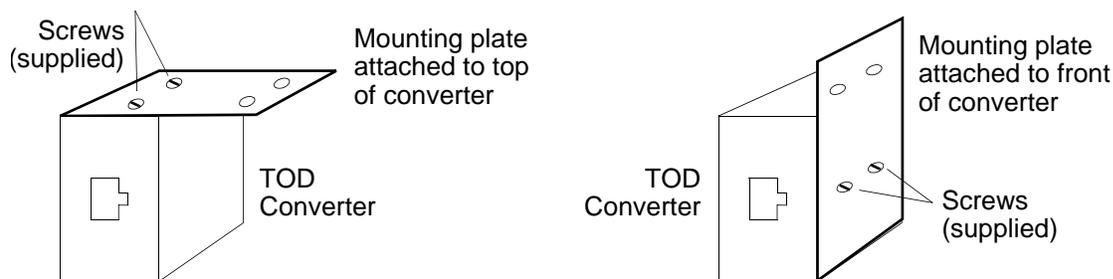

Figure 3-24 RS-422-to-RS-232 TOD Converter Mounting Plate
1.	<p>Secure the provided mounting plate to the RS-422-to-RS-232 TOD converter, using the two provided screws. The plate may be attached to the top or front of the converter, depending on the desired surface (for example, a rack or cabinet) to which the converter will be mounted (see Figure 3-24).</p> <p>Notes:</p> <ol style="list-style-type: none"> Due to distance constraints, the converter must be placed no more than 305 m from the TimeSource 3600 Shelf, and no more than 15 m from the device receiving the time code. The converter dimensions are 7.5 cm by 3.8 cm by 2.5 cm. The mounting plate dimensions are 7.5 cm by 5 cm.